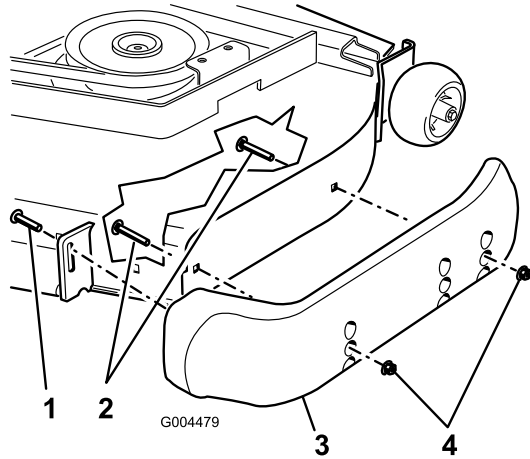

Figure 44
- Loosen the screw at the front of each skid (2 skids on Guardian decks and 1 skid on side-discharge decks) as shown in Figure 44.